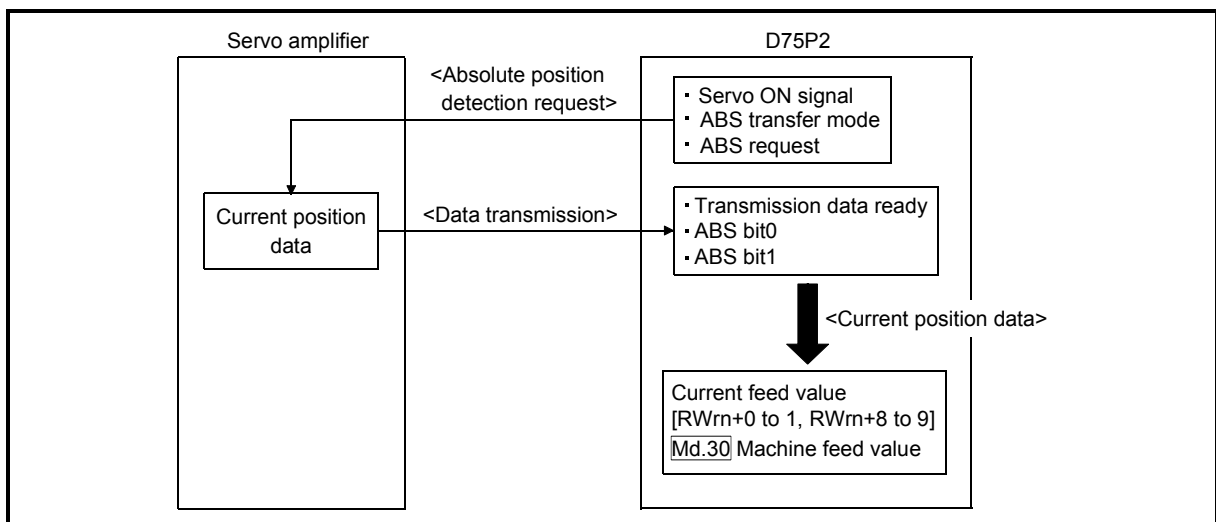

Fig. 12.33 Absolute position signal transfer procedure
- (1) The outline of the absolute position signal transfer procedure between the servo amplifier and D75P2 is shown in Fig. 12.33.